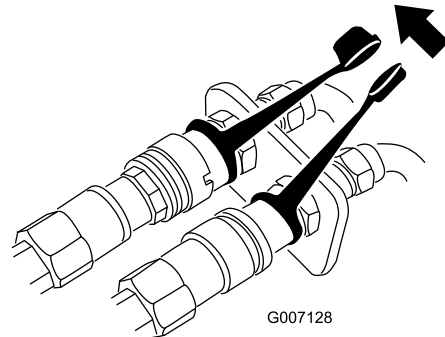

Figure 35
10. Connect the protective covers of the hydraulic couplers to each other to ensure the inside of the covers stay clean when the unit is in use (Figure 35).